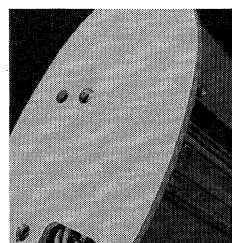

Fig. 17
- Mount provided spacer endplate between top of endplate and end of rail to prevent damage to components [Fig. 17].